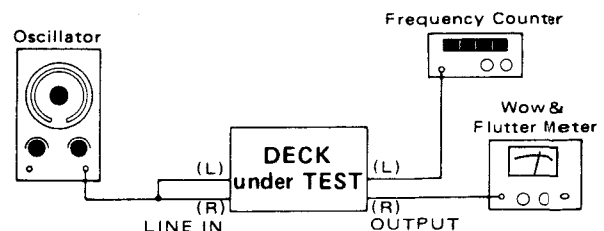

Fig. 4-2
1. Connect a frequency counter to the deck as shown in Fig. 4-2.
1. Connect a wow-and-flutter meter to the deck as shown in Fig. 4-2.